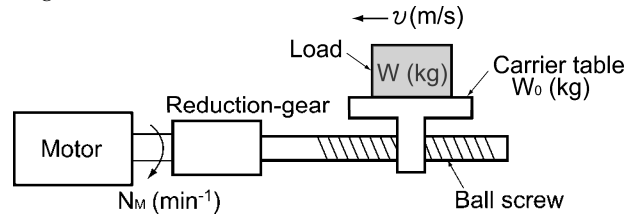

Figure 3.7 Moving a Load Horizontally
A simplified mechanical configuration is assumed as shown in Figure 3.7. If the mass of the carrier table is  $W_0$  (kg), the load is  $W$  (kg), and the friction coefficient of the ball screw is  $\mu$ , then the friction force  $F$  (N) is expressed as follows, which is equal to a required force for driving the load:
Assume a carrier table driven by a motor as shown in Figure 3.7. If the table speed  $v$  (m/s) when the motor speed is  $N_M$  ( $\text{min}^{-1}$ ), then an equivalent distance from the shaft is equal to  $60 \cdot v / (2\pi \cdot N_M)$  (m). The moment of inertia of the table and load to the shaft is calculated as follows: